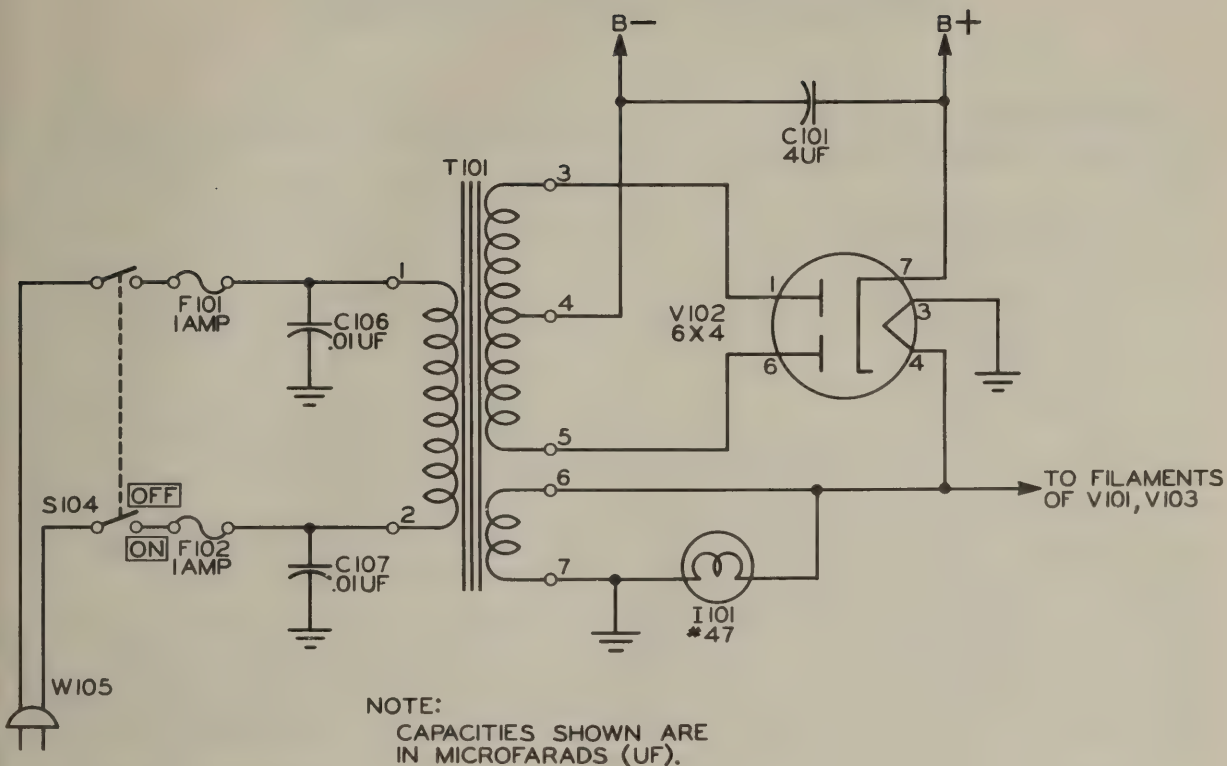

Figure 2-9. Power Supply Circuit.
h. POWER SUPPLY.—The power supply for Multimeter ME-25B/U is shown in figure 2-9. It is necessary to use it to furnish both DC and AC voltages to operate the meter circuits for all voltage and resistance measurements. It consists of line cord W-105, power switch S-104, fuses F-101 and F-102, line filter capacitors C-106 and C-107, power transformer T-101, filter capacitor C-101, and pilot lamp I-101. Terminals 6 and 7 of transformer T-101 furnish 6.3 volts AC to light lamp I-101 when the power is on, and to heat